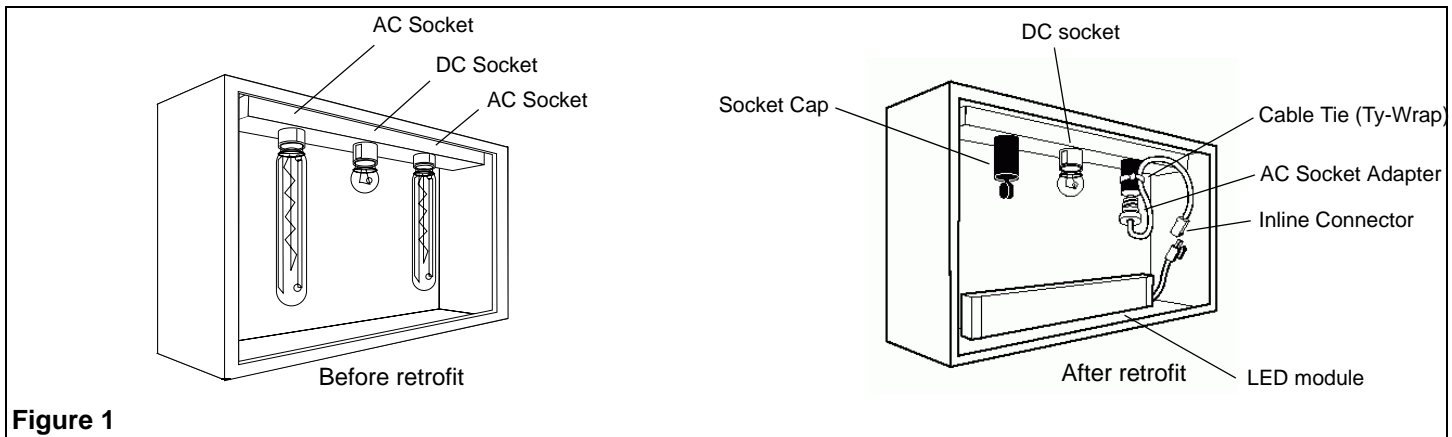

Figure 1
3. Remove the AC bulbs from fixture (Fig.1). Do not remove DC bulb (Caution: Bulbs may be hot).